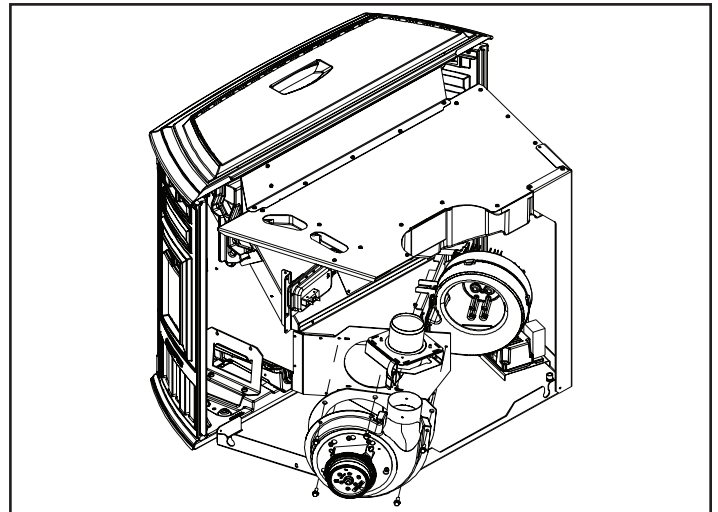

Figure 26.3
1. The combustion blower is mounted in the bottom right rear of the appliance. **Figure 26.3.**